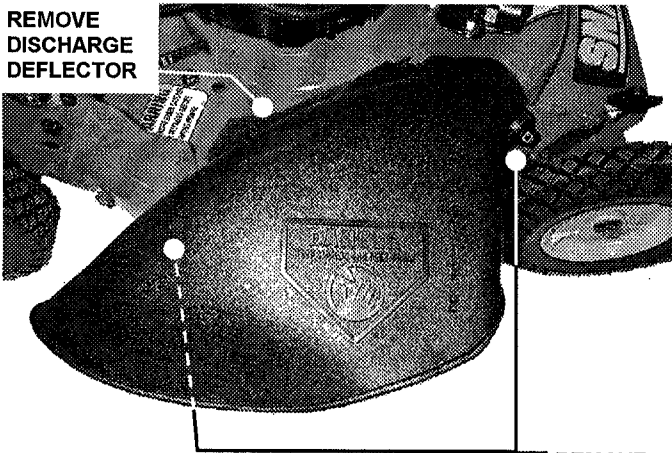

FIGURE 1
STEP 1: Remove discharge deflector and save nuts for mounting bag adapter. See Figure 1.